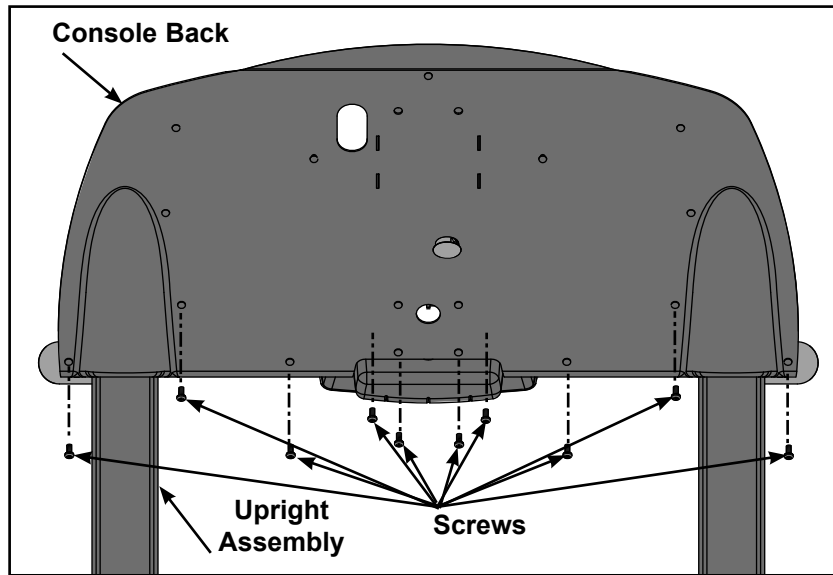

Figure 28
- Using a Phillips screwdriver, remove the ten screws securing the console back from the upright assembly. See Figure 28. **NOTE:** Screws are different sizes. Make note of location of screws during removal.
- Using a Phillips screwdriver, install the ten screws securing the console back from the upright assembly. See Figure 28.
- D. Using a Phillips screwdriver, secure the console back to the upright assembly using ten screws. Fully tighten the two screws installed in step 9C. See Figure 28.